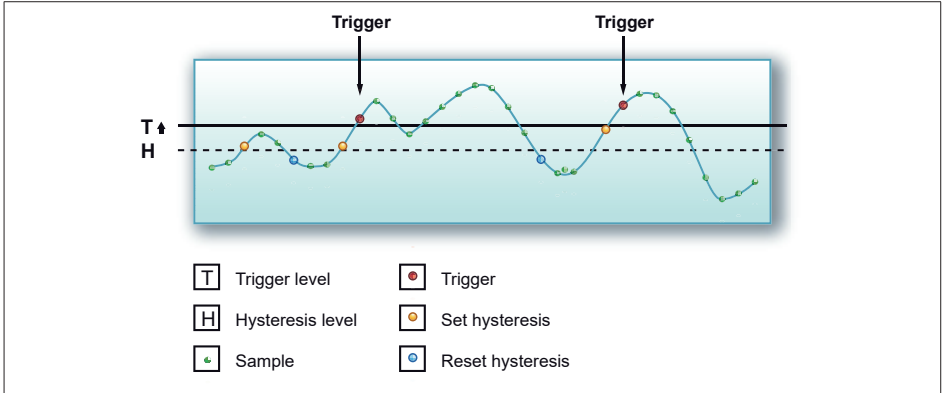

Fig. 10.3 Trigger level hysteresis
Fig. 10.3 shows the influence of the additional hysteresis. Fundamentally, everything is the same as described earlier. The only difference now is that a second level (H) is used to “arm” the level trigger detector. Otherwise stated, the trigger level has been expanded to be a trigger zone that spans multiple levels.